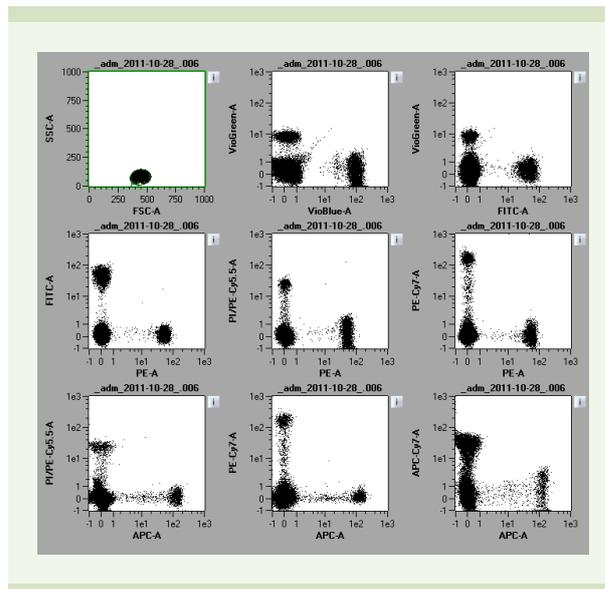

Figure 4: After 8-color compensation the results are displayed on the screen of the MACSQuant Instrument.
- The MACSQuant Analyzer 10 will perform 8x8-color compensation on the selected region of interest (figure 4).